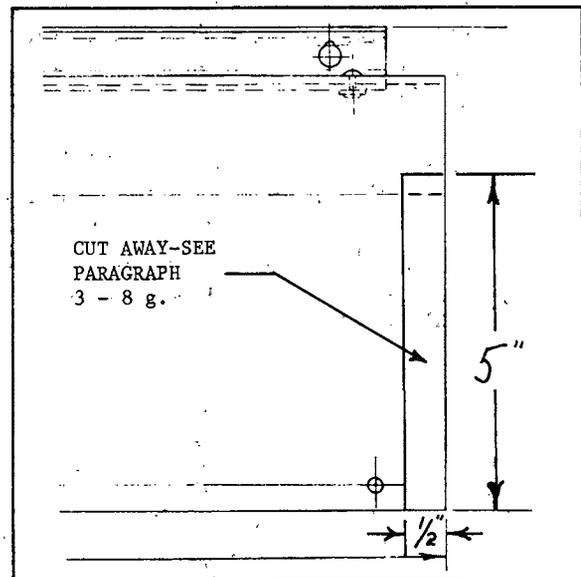

Figure A-13.
- g. Cut away a section 1/2" x 5" from the lower right side (rear view) of the fibreboard generator cover, as shown in Figure A-13. Reattach generator cover.